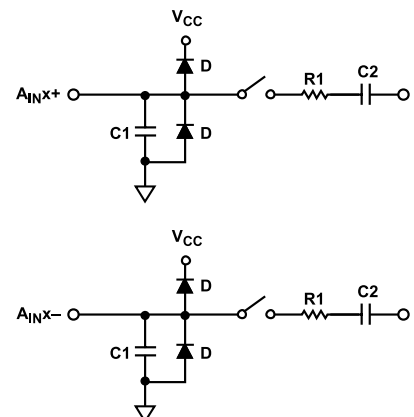

Figure 33. Equivalent Analog Input Circuit, Conversion Phase—Switches Open, Track Phase—Switches Closed
Figure 33 shows the equivalent analog input circuit of the AD4682 and the AD4683. The four diodes (D) provide ESD protection for the analog inputs. Ensure that the analog input signals do not exceed the supply rails by more than 300 mV. Exceeding the limit causes these diodes to become forward-biased and start conducting into the substrate. These diodes can conduct up to 10 mA without causing irreversible damage to the devices.
The C1 capacitors in Figure 33 are typically 3 pF and can primarily be attributed to pin capacitance. The R1 resistors are lumped components made up of the on resistance of the switches. The value of these resistors is typically about 200  $\Omega$ . The C2 capacitors are sampling capacitors of the ADC with a capacitance of 15 pF typically.